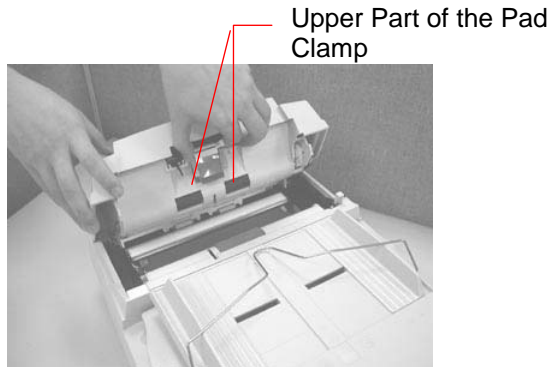

Figure 6-4 Installing the pad module
2. Hold the upper part of the pad clamp and place it gently to the pad holder as shown in Figure 6-4.